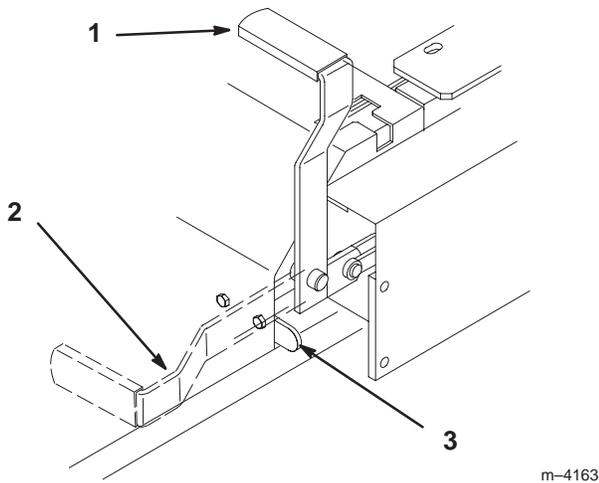

Figure 14
2. Pull back and up on the parking brake lever to set the parking brake (Fig. 14). The parking brake lever should stay firmly in the "ENGAGED" position.
1. Push forward and down on the parking brake lever to release the parking brake (Fig. 14). The parking brake is “DISENGAGED” and the lever rests against the brake stop.